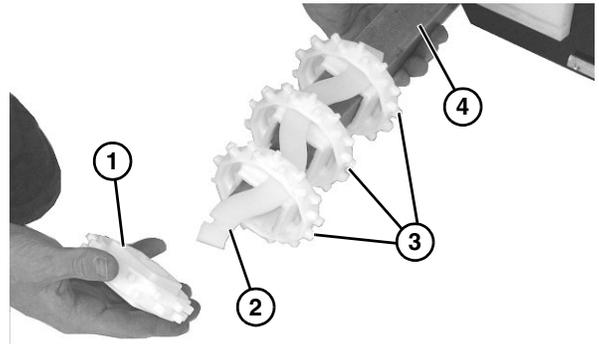

Figure 39
11. Slide entire sprocket assembly slightly outward, and remove the first sprocket (**Figure 39, item 1**) off the drive spindle and alignment bar (**Figure 39, item 2**).
12. Remove remaining sprockets (**Figure 39, item 3**) off the alignment bar as you slide entire assembly off the drive spindle (**Figure 39, item 4**).